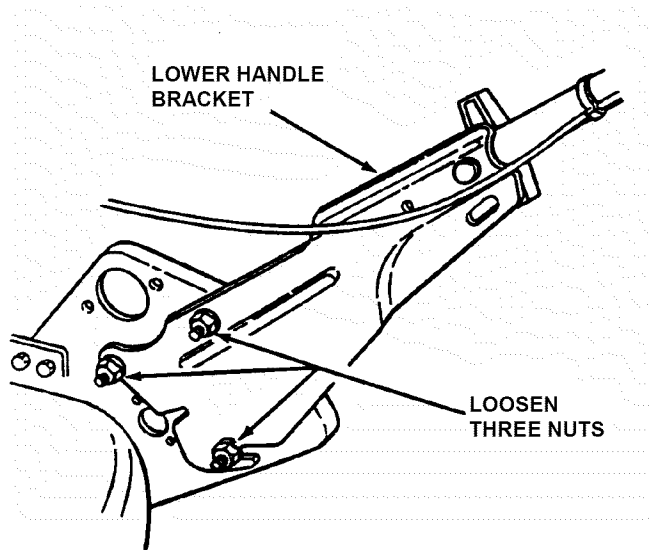

FIGURE 4
STEP 5: Handle height is adjustable for different height of operators. Loosen the three nuts on the inside of each of the lower handles. See Figure 4.